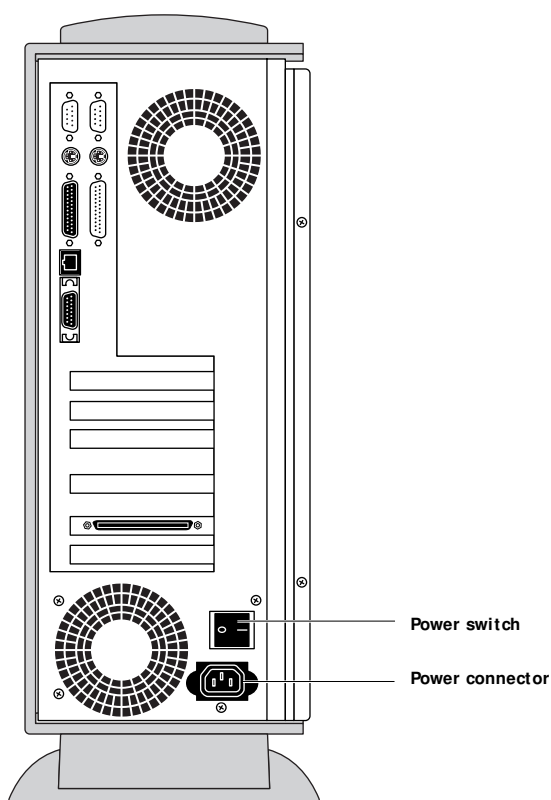

FIGURE 3-1 Fiery ZX power
1. Connect the recessed end of the Fiery ZX power cable to the power connector at the back of the Fiery ZX (see Figure 3-1).